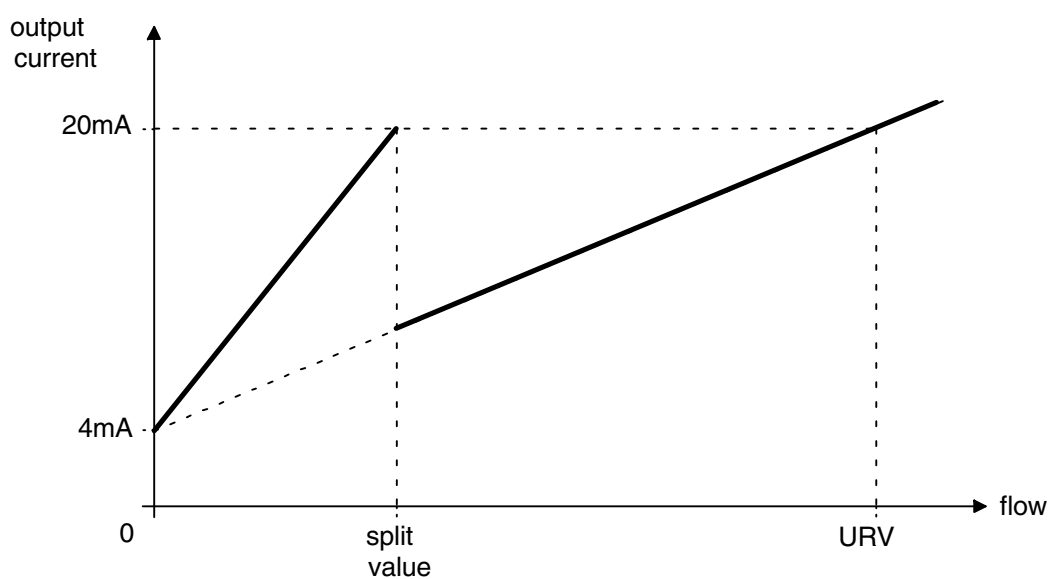

Figure 5-13 Split mode in domain 4 ... 20 mA
When "Split value active" is selected, the output is active when the current level of the flow value is within the lower subdomain 0 to "Split value"; the output current is then scaled to the 0 to "Split value" range. If the flow value exceeds this subdomain, the output current is scaled to the 0 to URV range (See Figure 5-13).
- When "Split value active" is selected, the output is active when the current level of the flow value is within the lower subdomain 0 to "Split value"; the output current is then scaled to the 0 to "Split value" range. If the flow value exceeds this subdomain, the output current is scaled to the 0 to URV range (See Figure 5-13).